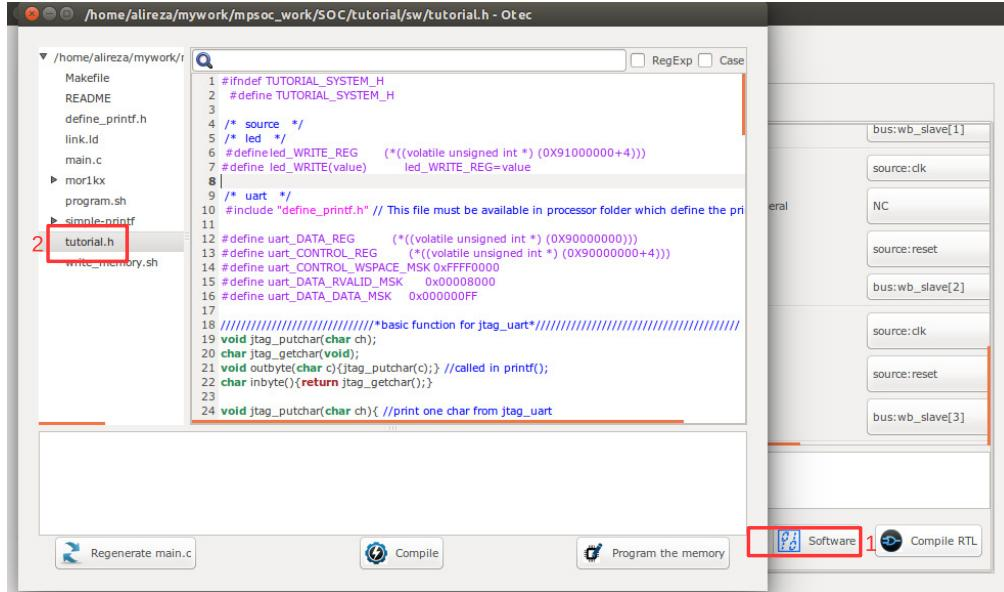

Figure 5.10: The software edit window snapshot.
2. In the left Tree-View window, you can select any file in the project sw directory to open and edit it. Click on the `tutorial.h` file to view its contents. This file contains all the generated SoC functions and Wishbone addresses. See Figure 5.10 for a snapshot of the software edit window.